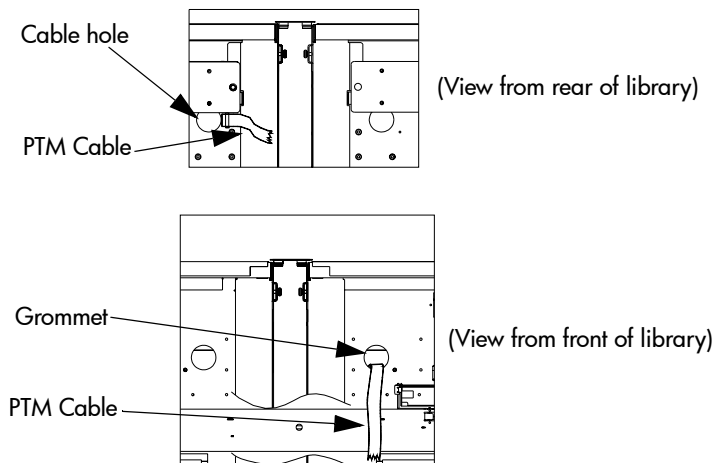

Figure 21: Cable hole location (ESL9326 shown)
1. Remove the cable hole plug as shown in Figure 21 and install the grommet provided into the hole.
2. Reach through the hole (see Figure 21) and pull the pass through cable through the hole, leaving approximately 18 in. of the cable on the front side of the bin wall.